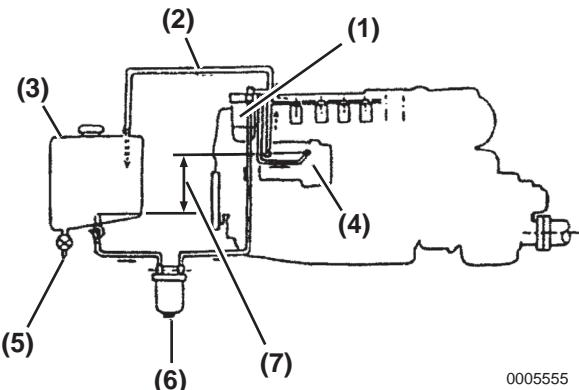

Figure 3-18
Be sure to install a drain cock (**Figure 3-18, (5)**) at the bottom of the fuel tank to remove water and contaminates.
Install a fuel filter / water separator (**Figure 3-18, (6)**) and a fuel filter (**Figure 3-18, (1)**) between the fuel tank and the fuel injection pump.